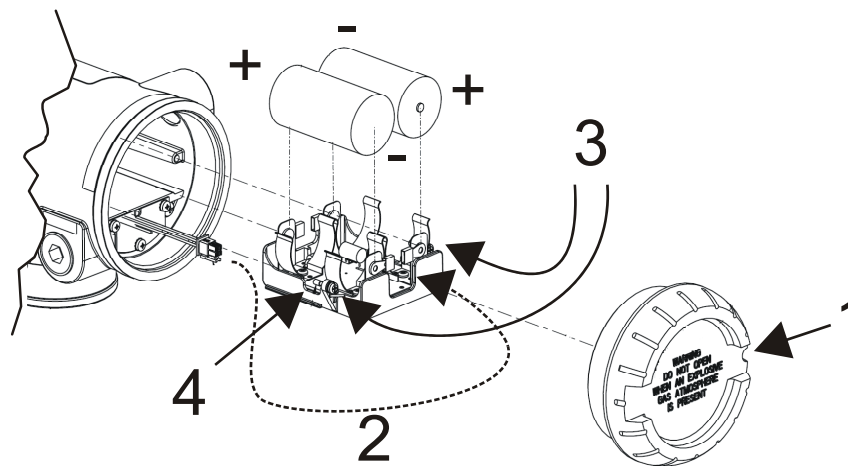

Figure 10 Battery replacement
1	Loosen the M3 locking set screw on the battery end-cap (opposite end from display). See item 1 in Figure 10. Unscrew and remove the end cap.
| 2 | Using thumb and forefinger, squeeze the battery connector at top and bottom to disengage the locking mechanism, then pull to disconnect. See item 2 in Figure 10. |
| 3 | Loosen the two battery holder retaining screws (closest to the batteries). See item 3 in Figure 10. The screws are captive. |
| 5 | Remove the old batteries from the battery holder. If needed, pry out the batteries by using a slotted screwdriver as a lever in the holder's side slots. See item 4 in Figure 10. |